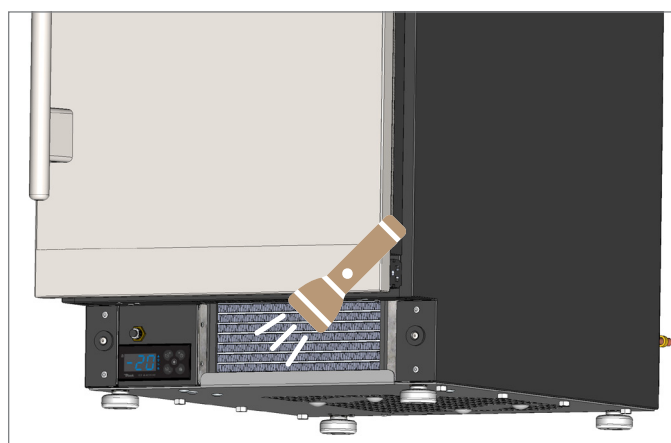

FIG. 3. Verify all blockages have been removed.
3. With the dirt removed from the surface of the coil, use a flashlight to verify you can see through the coil and observe the condenser fan blade spinning. See fig. 3.